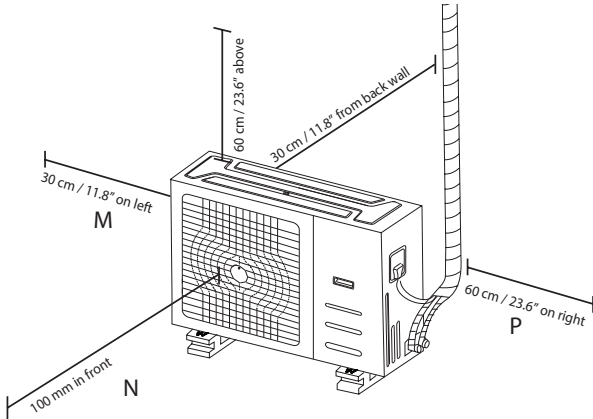

Fig. 5.10
- Mount on a firm, stable base in accordance with the specification of the outdoor units. (Refer to Fig. 5.10).
NOTE: The minimum distance between the outdoor unit and walls described in the installation guide does not apply to airtight rooms. Be sure to keep the unit unobstructed in at least two of the three directions (M,N, P) (See Fig. 5.10)